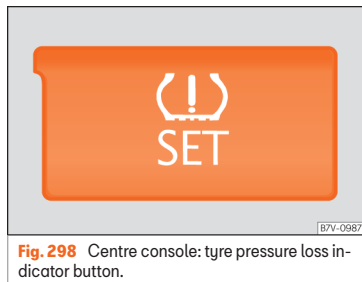

Fig. 298 Centre console: tyre pressure loss indicator button.
- Press and hold down the (⚠) **SET** »» Fig. 298 button until an audible signal is heard.
Incorrect use of the tyre pressure monitoring indicator set button could result in the indicator giving incorrect warnings or prevent it from indicating the danger caused by very low tyre pressure »» Fig. 298.